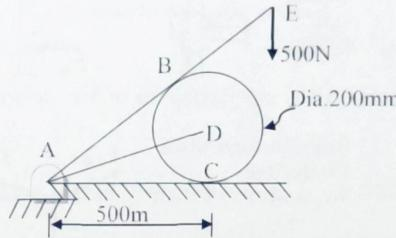

Fig 2.40
- 8) A cylinder of weight 300N is held in equilibrium as shown in fig 2.40. Determine the tension in the string AD and reaction at C and B. The length of AE = 750 mm. (Ans: 692.3N, 271.55N, 992N)